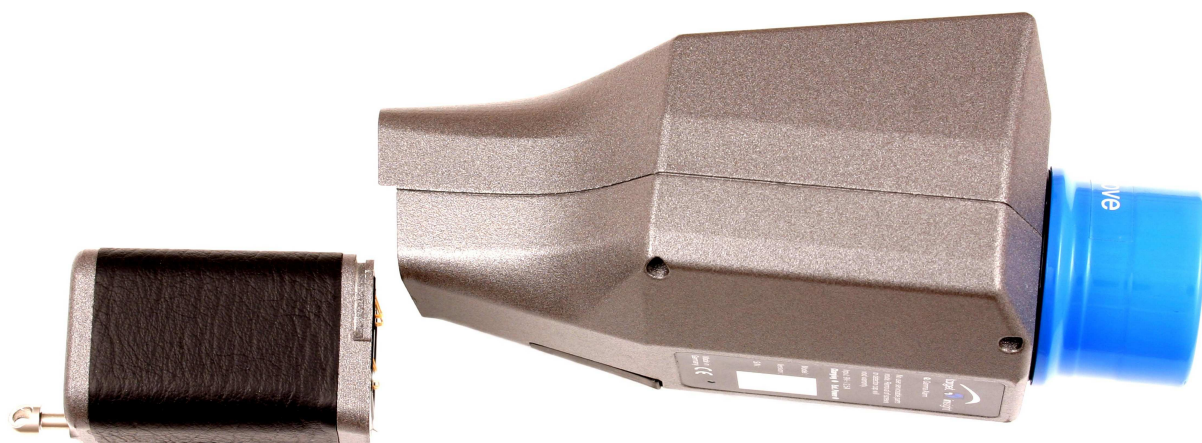

Figure 53
- Turn the screw (battery pack lock) on the battery lid anti-clockwise until the lid can be removed (Figure 53), it is not necessary to unscrew the lock completely.
- Make sure that the powerPACK plus is in the correct position and orientation as shown in Figure 53,